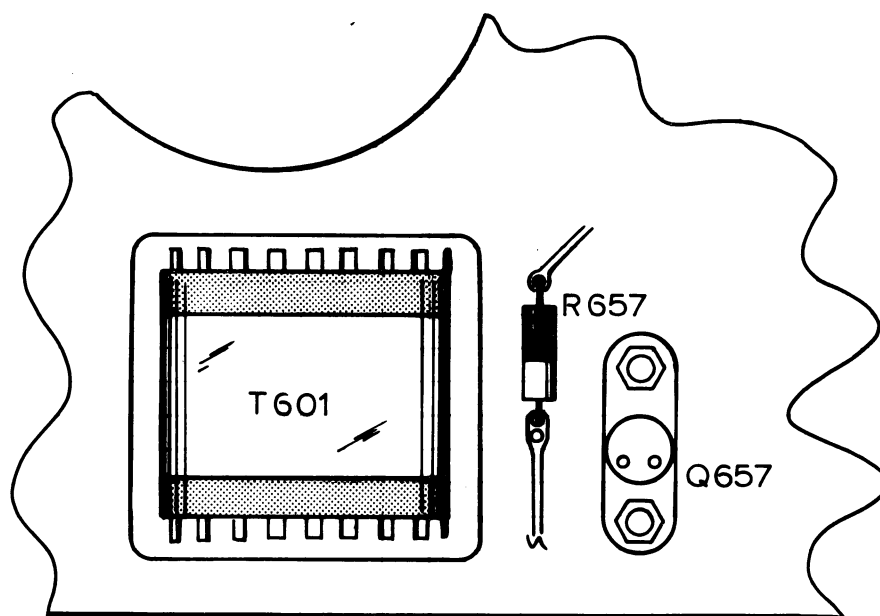

Fig. 2
Replace the following components on the 'A' Sweep Board (bottom, towards right side of instrument), with parts from kit (see Fig 2):
- () 5. Replace R657 located on the AC Power Supply circuit board between T601 and Q657 with a 15 Ω 1W 5% resistor from the kit. See Fig. 2.